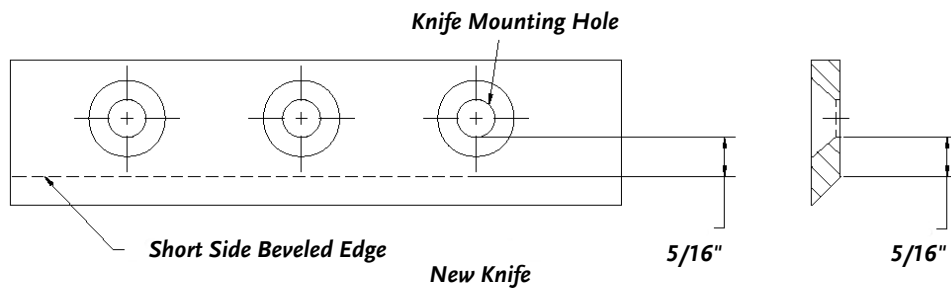

Figure 32
- A new Chipper Knife has 5/16" measurement between the short side bevel edge and the Knife mounting holes (**Figure 32 “New Knife”**).